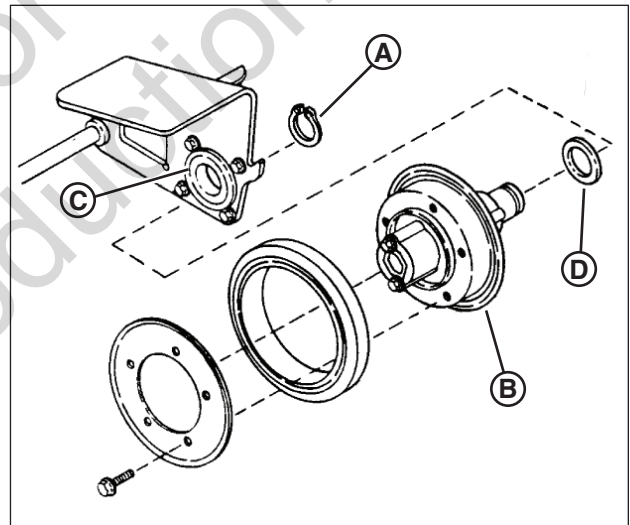

Figure 31: Replacing the driven disc bearing
2. Remove the snap ring (A, Figure 31) that secures the driven disc hub (B) to the thrust plate.
3. Slide the driven disc hub out of the bearing (C).